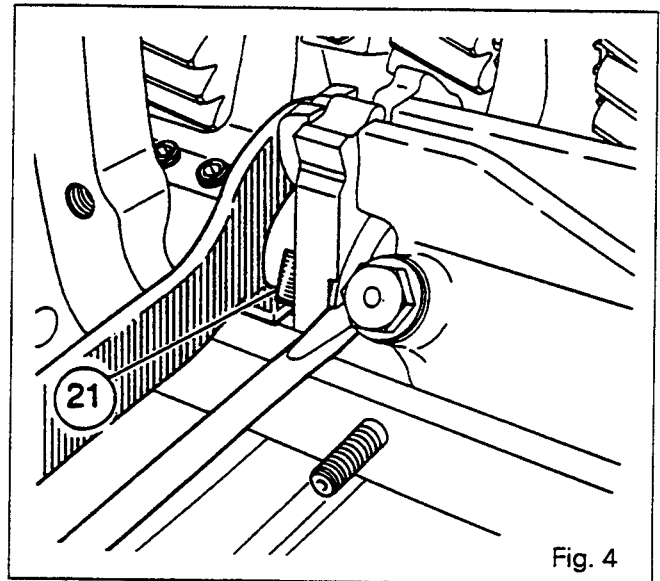

Fig. 4
5. Slacken off the castellated nut (21) using spanner 3615334 M1 (see Fig. 4).